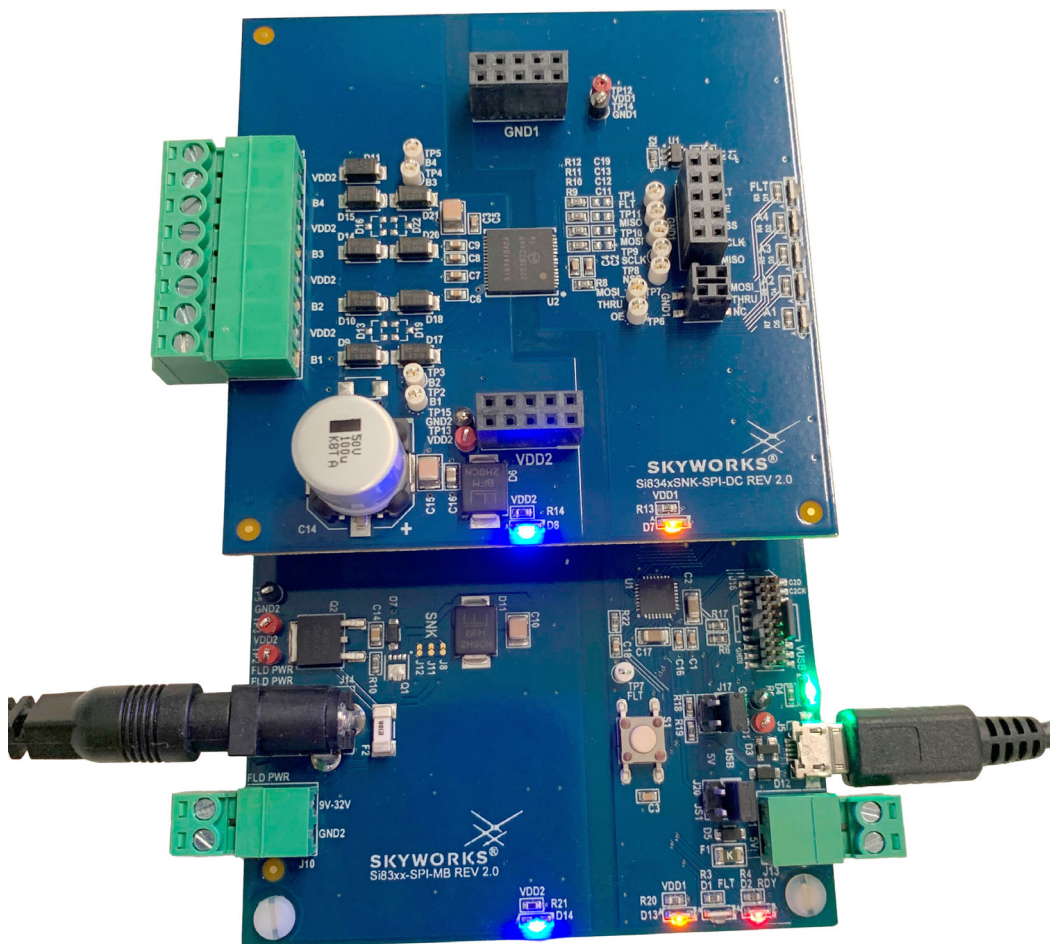

Figure 1. Si83xx SPI Motherboard and Daughtercard during Operation
5. Once complete, your setup should look similar to the one in Figure 1 above.